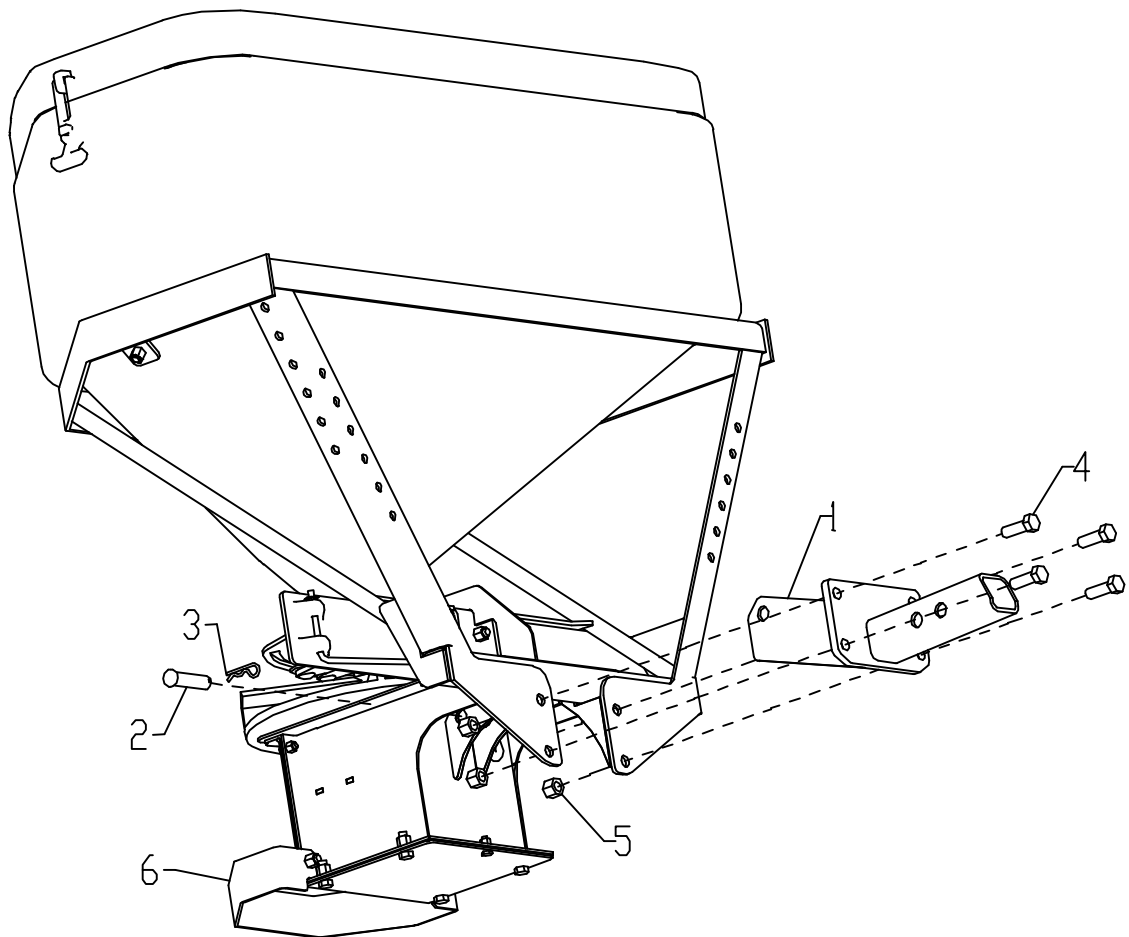

Figure 5. Standard Hitch Assembly Installation
- 1) Mount Standard Hitch Assembly (1) to Spreader using four 1/2"-13X1-1/2" HHCS (4), four 1/2"-13 Nylon Lock Nuts (5), one 5/8"X2-1/2" Pin (2), and one #16 Cotter Hairpin (3). See Figure 5.
- 1) Remove Spinner Protector (6), Figure 5, and reassemble nuts and bolts.